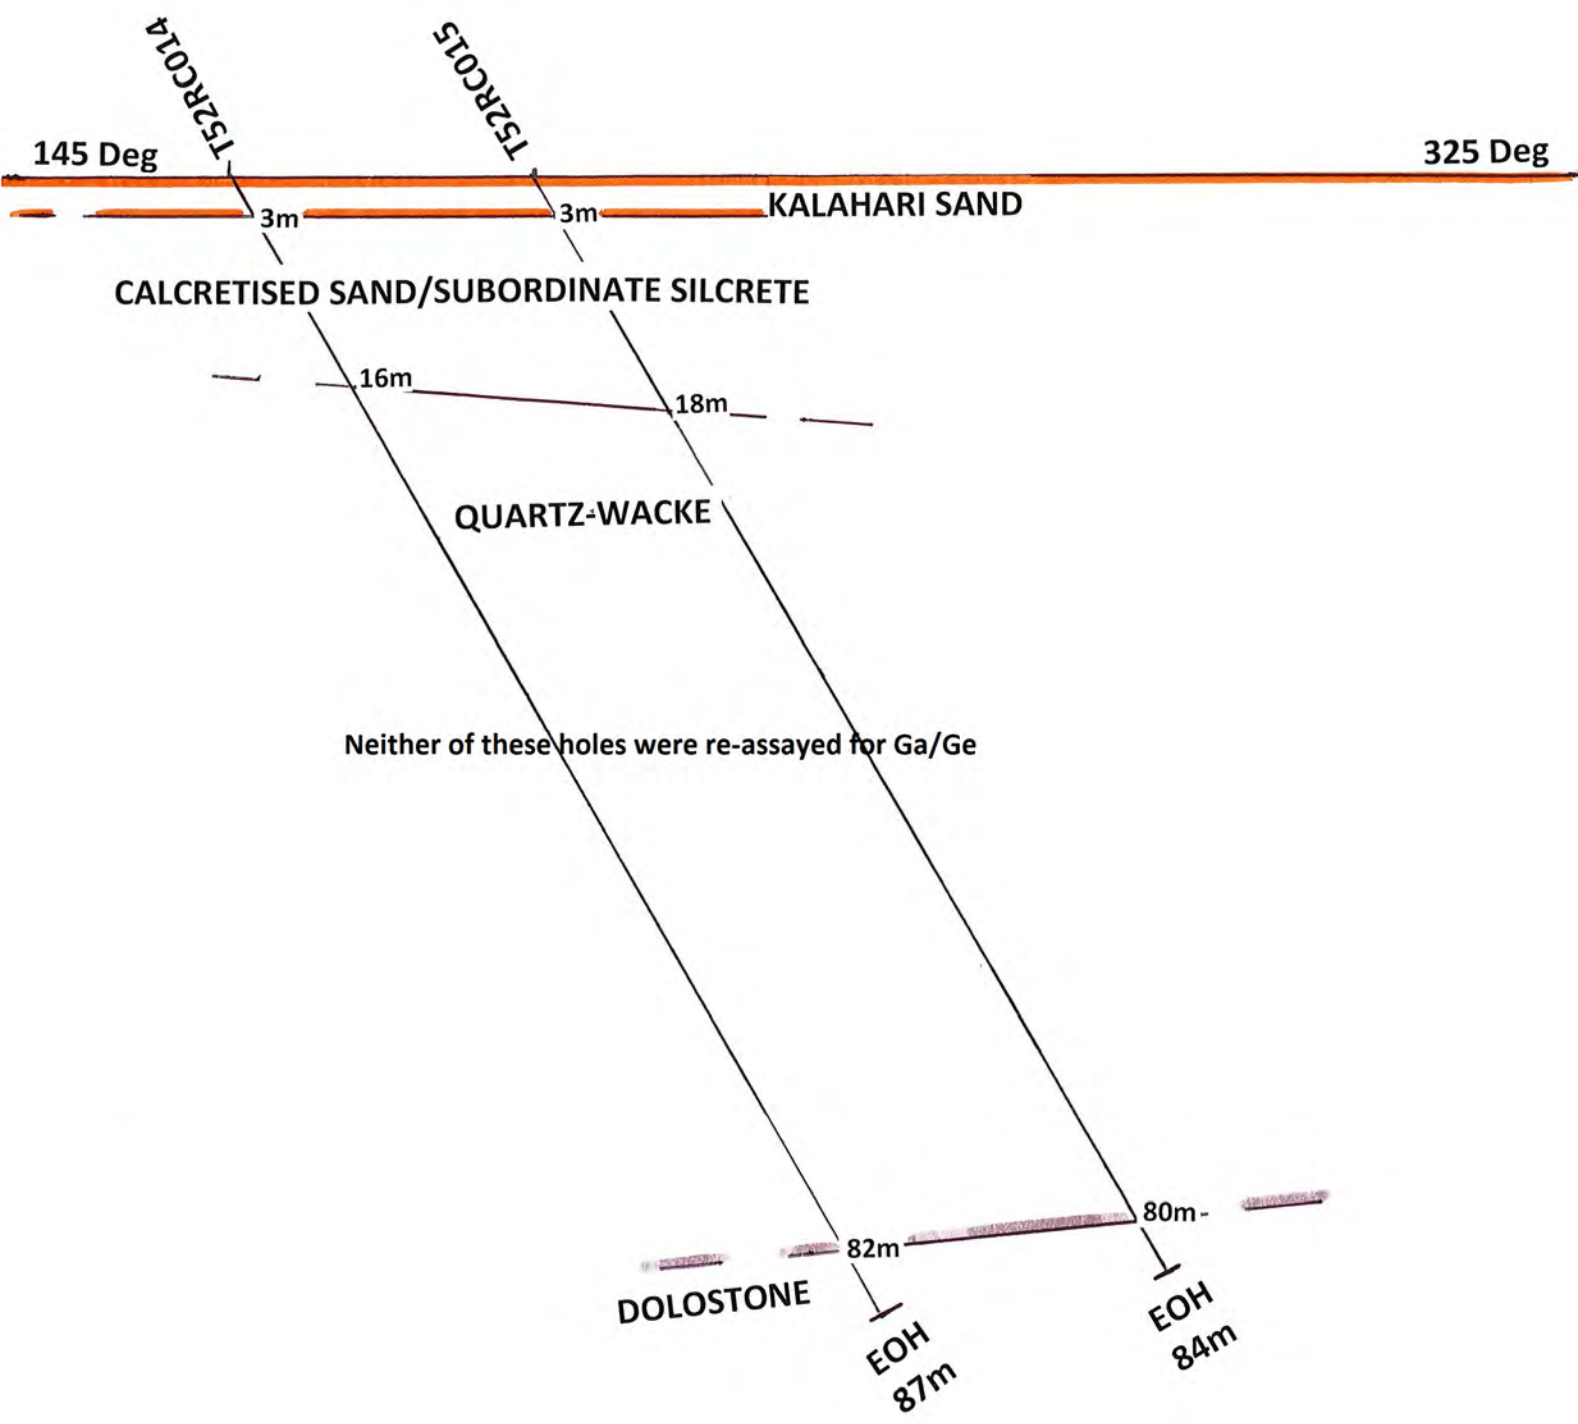

FIGURE 9
- Wanchu West anomaly (Figure 9)